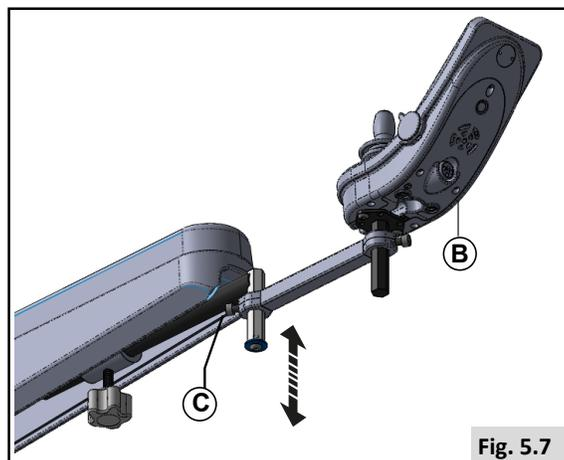
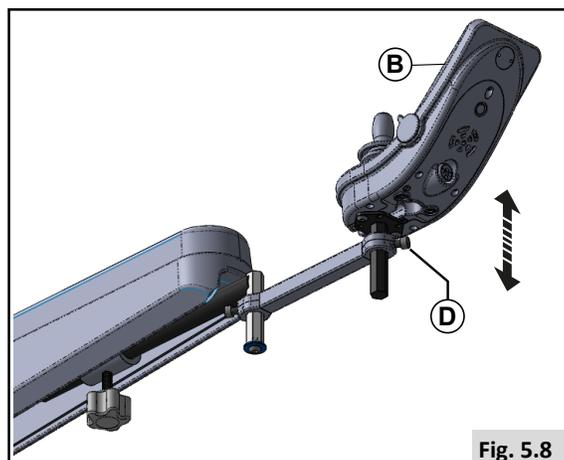

Fig. 5.7
Fig. 5.8
### Pre-setting height of the controller (1) (Fig 5.7)
1. Loosen screw (C).
2. Slide controller (B) to desired height.
3. Tighten screw (C). See page 23 for M6 torque.
### Pre-setting height of the controller (2) (Fig 5.8)
1. Loosen screw (D).
3. Tighten screw (D). See page 23 for M6 torque.